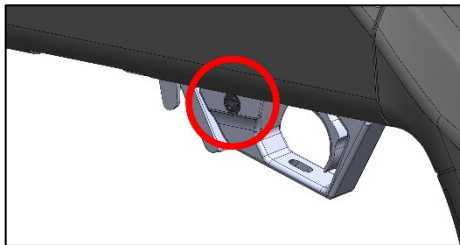

Figure 14 – SAFETY ON/FULL SAFE
- If after a new round is chambered and firing is not continued, place the safety button into the "FULL SAFE" position – Figure 14. Continue to be certain to keep the muzzle pointed in a safe direction.